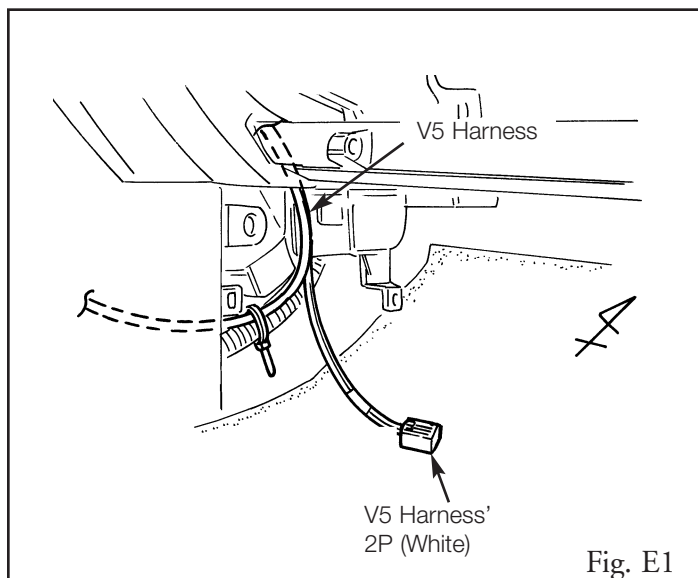

Fig. E1
1. Locate the V5 harness' white 2P connector from the passenger side center console area. (Fig. E1)